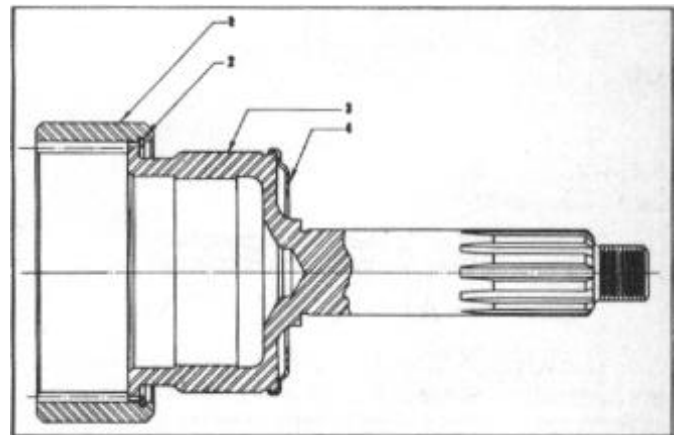

FIGURE 4
2. Remove the overdrive mainshaft and ring gear assembly (Catch the rollers as they drop out of the free wheeling cam roller retainer.) Remove lock ring (2) Figure 4, which will permit removal of ring gear.